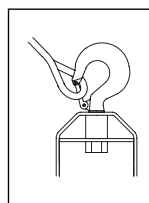

Figure 1
- Never use a hook that is worn beyond the limits shown in Figure 1.
- Remove from service any hook with a crack, nick, or gouge. Hooks with a nick or gouge shall be repaired by trained personnel by grinding lengthwise, following the contour of the hook, provided that the reduced dimension is within the limits shown in Figure 1. Contact Crosby Engineering to evaluate any crack.
- Always make sure hook supports the load. The latch must never support the load. (See Figure 1 & 2.)